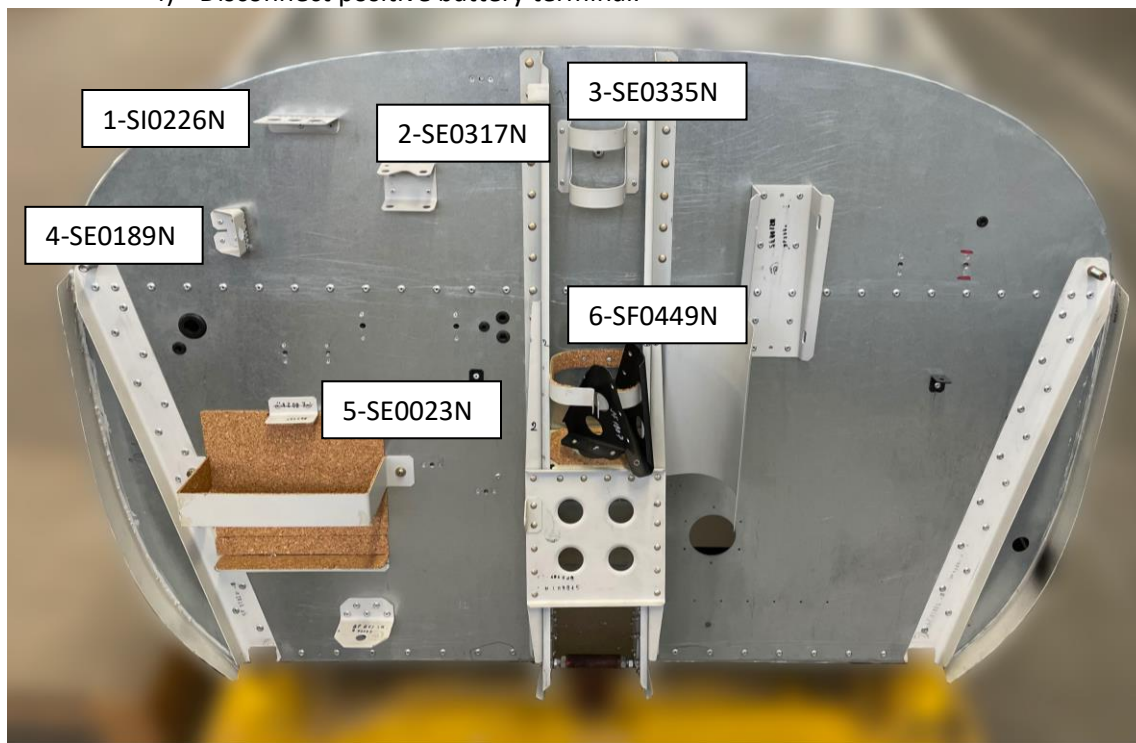
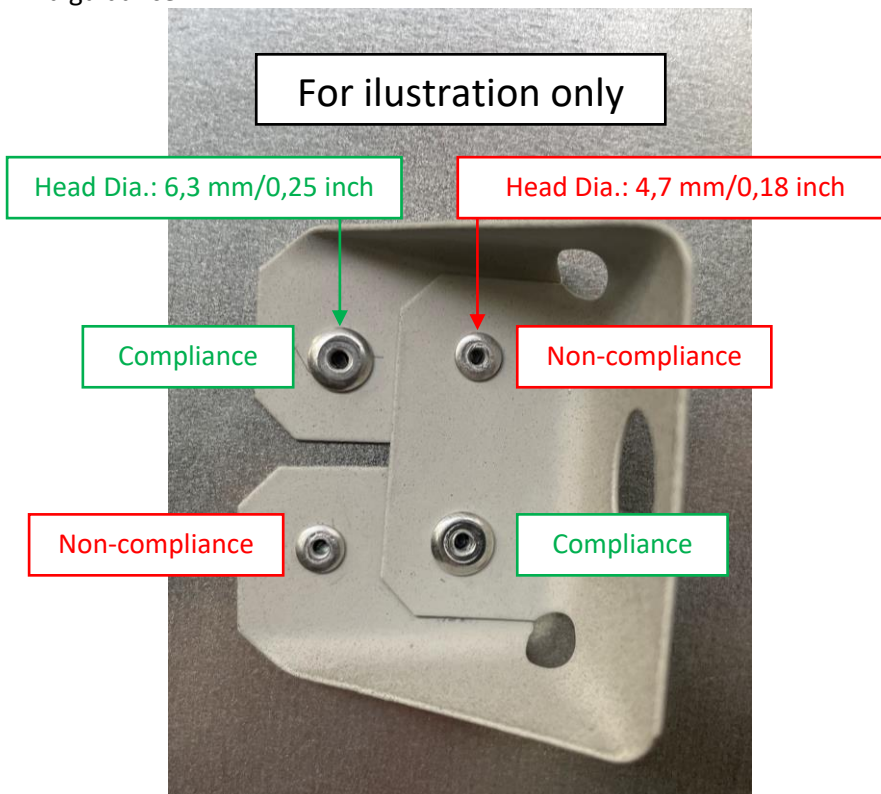
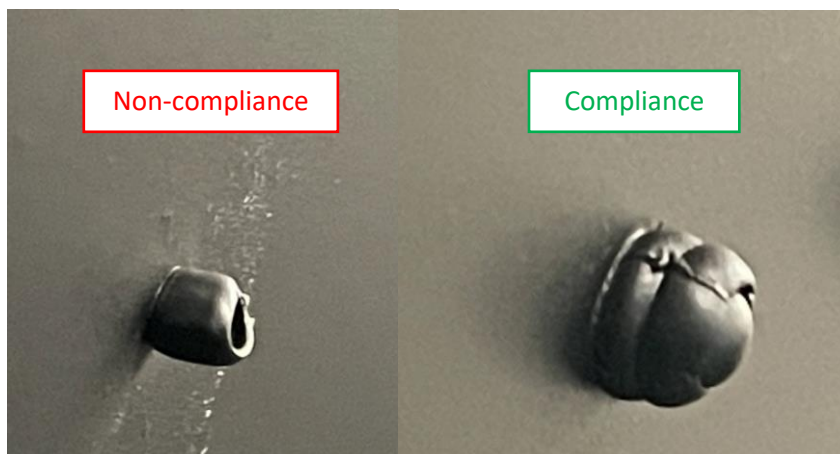

Fig. 1: Firewall
Fig. 2: Illustration of rivets heads
Fig. 3: Back part of the rivets
- 5) Unscrew the relay and remove flow meter on bracket SE0317N (2, Fig. 1).
- 6) Remove the tank at the SF0449N holder (6).
- 7) Inspect rivets on brackets and holders as Fig. 1 shows. Fig. 2 and Fig. 3 can be used as a guidance.